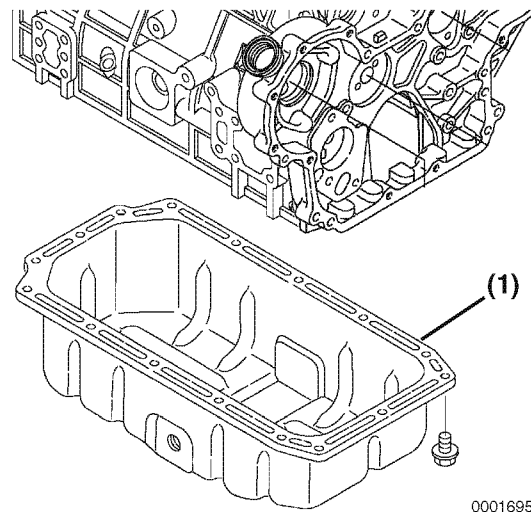

Figure 6-152
2. Apply a continuous bead of ThreeBond Liquid Gasket No. 1212, Yanmar Part No. 977770-01212 to the mounting surface of the oil pan (Figure 6-152, (1)). Be sure to circle each bolt hole.